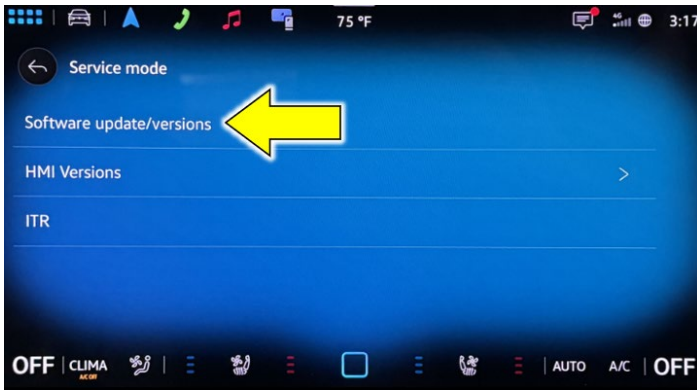

Figure 4: Software update/versions
- Select "Software update/versions" (see figure 4).